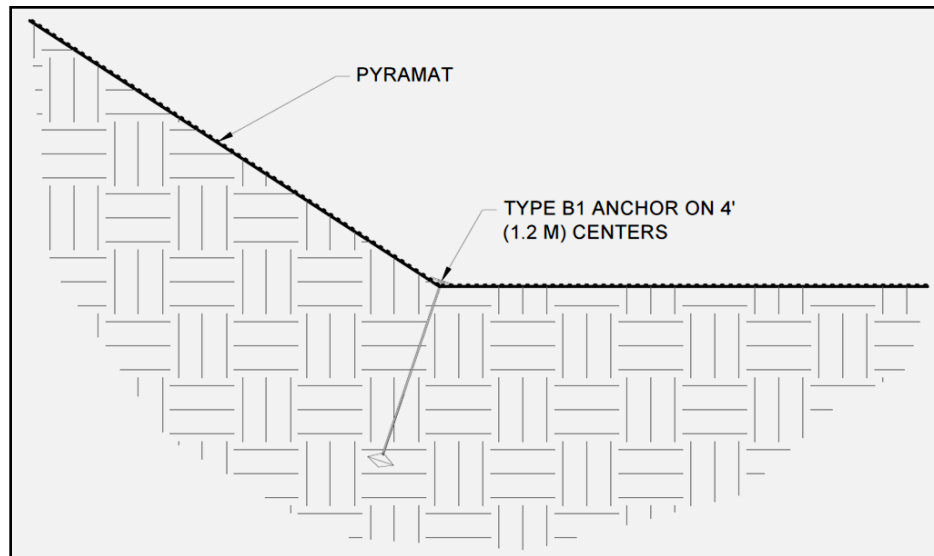

Figure 20: Break in Slope Interface
- At the break in slope interface towards the TOS, it is suggested that PDEAs be installed on 4 ft (1.2 m) centers (Figure 20).